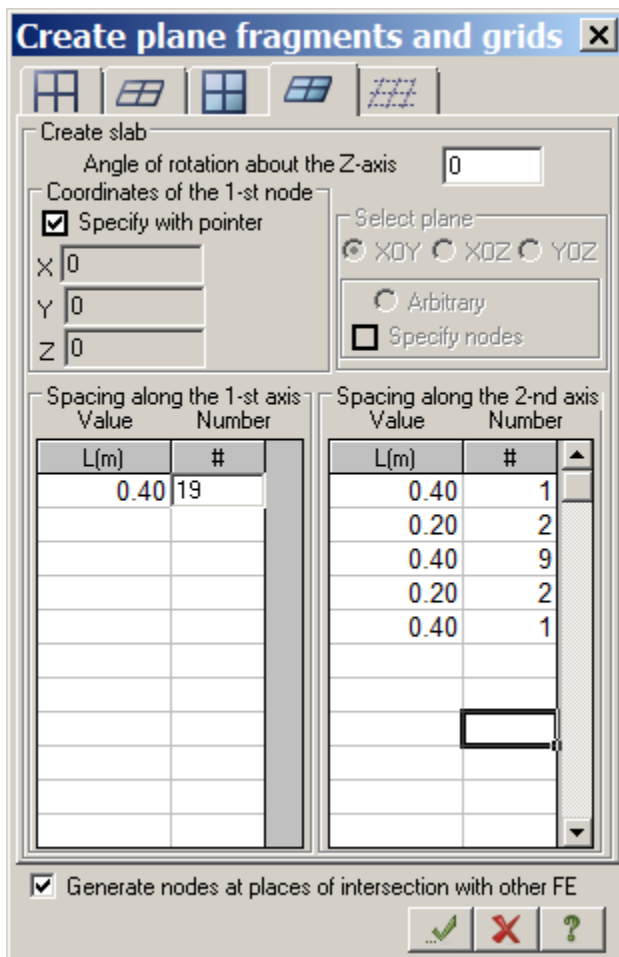

Figure 9.4 Create plane fragments and grids dialog box
- other parameters remain by default (see Fig.9.4).